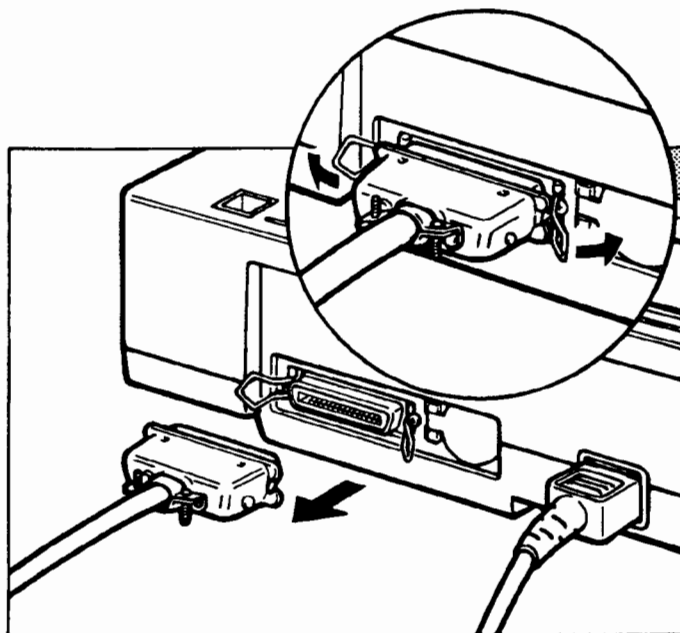

Figure C-5. Disconnecting the Interface Cable
4. Disconnect the interface cable from the ScanJet Plus scanner. See figure C-5.